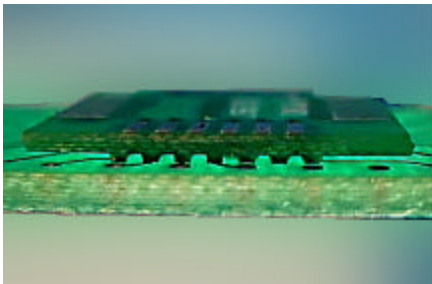

Figure 4: Magnified View of Solder Connections
(6) Clean PCB with the flux manufacturers recommended process. The picture of the solder connection is shown in Figures 4 and 5.